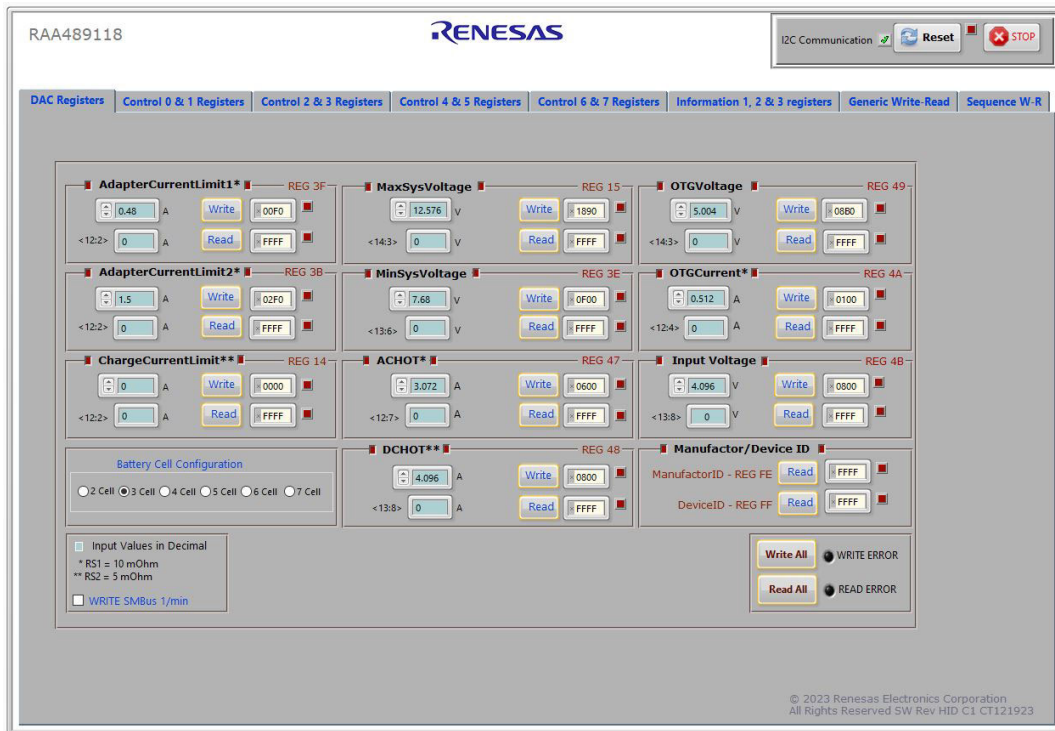

Figure 3. GUI Snapshot
The number of battery cell and adapter current limit default values can be configured through SW3 to select a proper PROG R. The PROG Pin Programming Options table in the *RAA489118 Datasheet* shows the programming options. After the default number of cells in series is set, the default values for MaxSystemVoltage and MinSystemVoltage are set accordingly. These values can also be changed through the SMBus control registers in the Renesas GUI, shown in Figure 3.
3. Set the battery emulator voltage to 18.5V and connect the battery emulator output to battery leads J5 and J6. Turn on the battery emulator and open the RAA489118 GUI (shown in Figure 3).
4. Turn on the power supply. Turn on the battery emulator and open the RAA489118 GUI (shown in Figure 3).